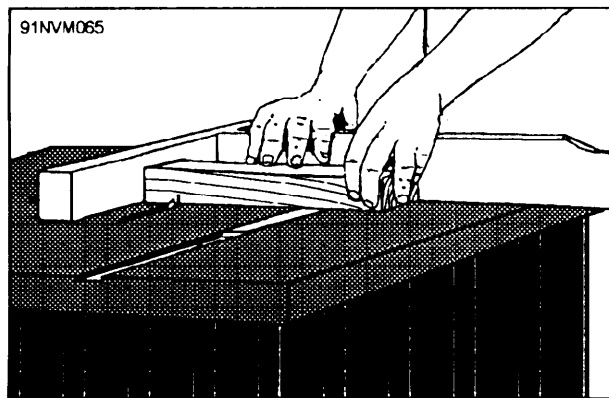

Figure 3-39.—Gutting a square-shouldered tenon.
Look at figures 3-39 and 3-40 as you read the following steps on using a circular saw to cut tenons.
3. Set the rip fence the length of the tenon away from the saw. Remember to measure from a sawtooth set to the left. Make the shoulder cuts, as shown in figure 3-39.